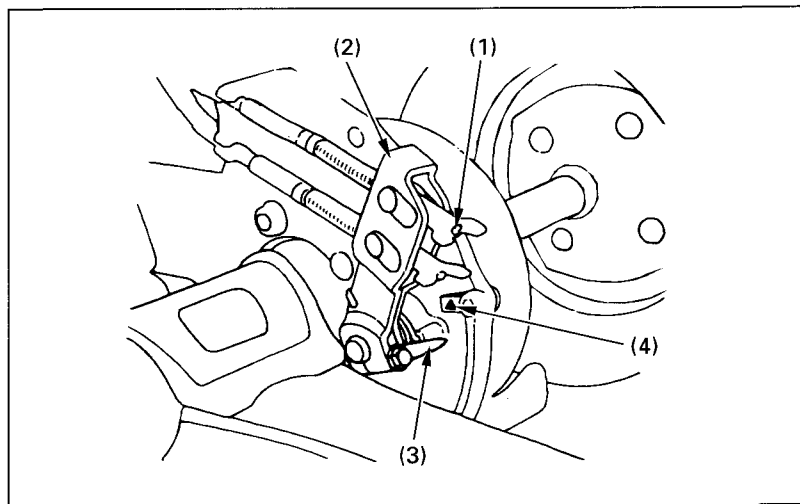

Fig. 4-31 (1) Brake lever adjusting nut (3) Arrow
When the brake is applied, an arrow (3) attached to the brake arm (2) moves toward a reference mark (4) on the brake panel (see Fig. 4-31).